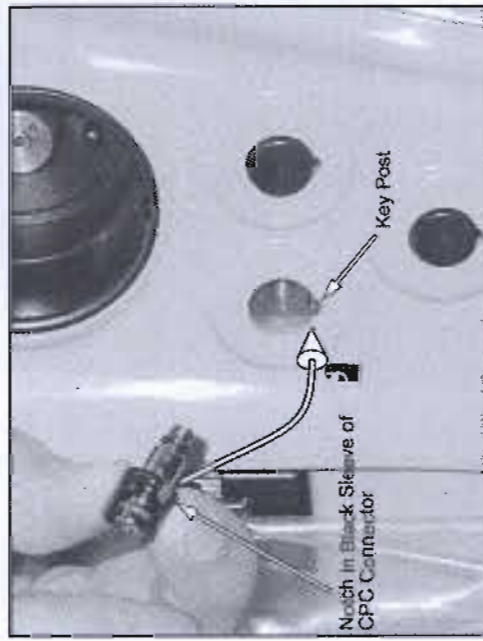

Figure 4-2 Replacing CPC Connector.
- 2.2 Line up notch in new CPC connector with key post in front panel (see Figure 4-2).
Warnings are generated to indicate a non-system fault (see Figure 4-2). When a warning is detected, the following occurs: